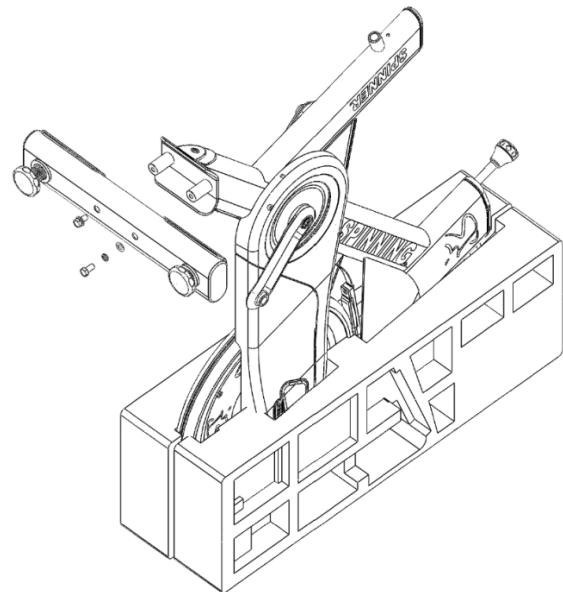

Fig. 9
9. Install the rear foot assembly (Fig. 9) and tighten hardware using the supplied multi sized open wrench.